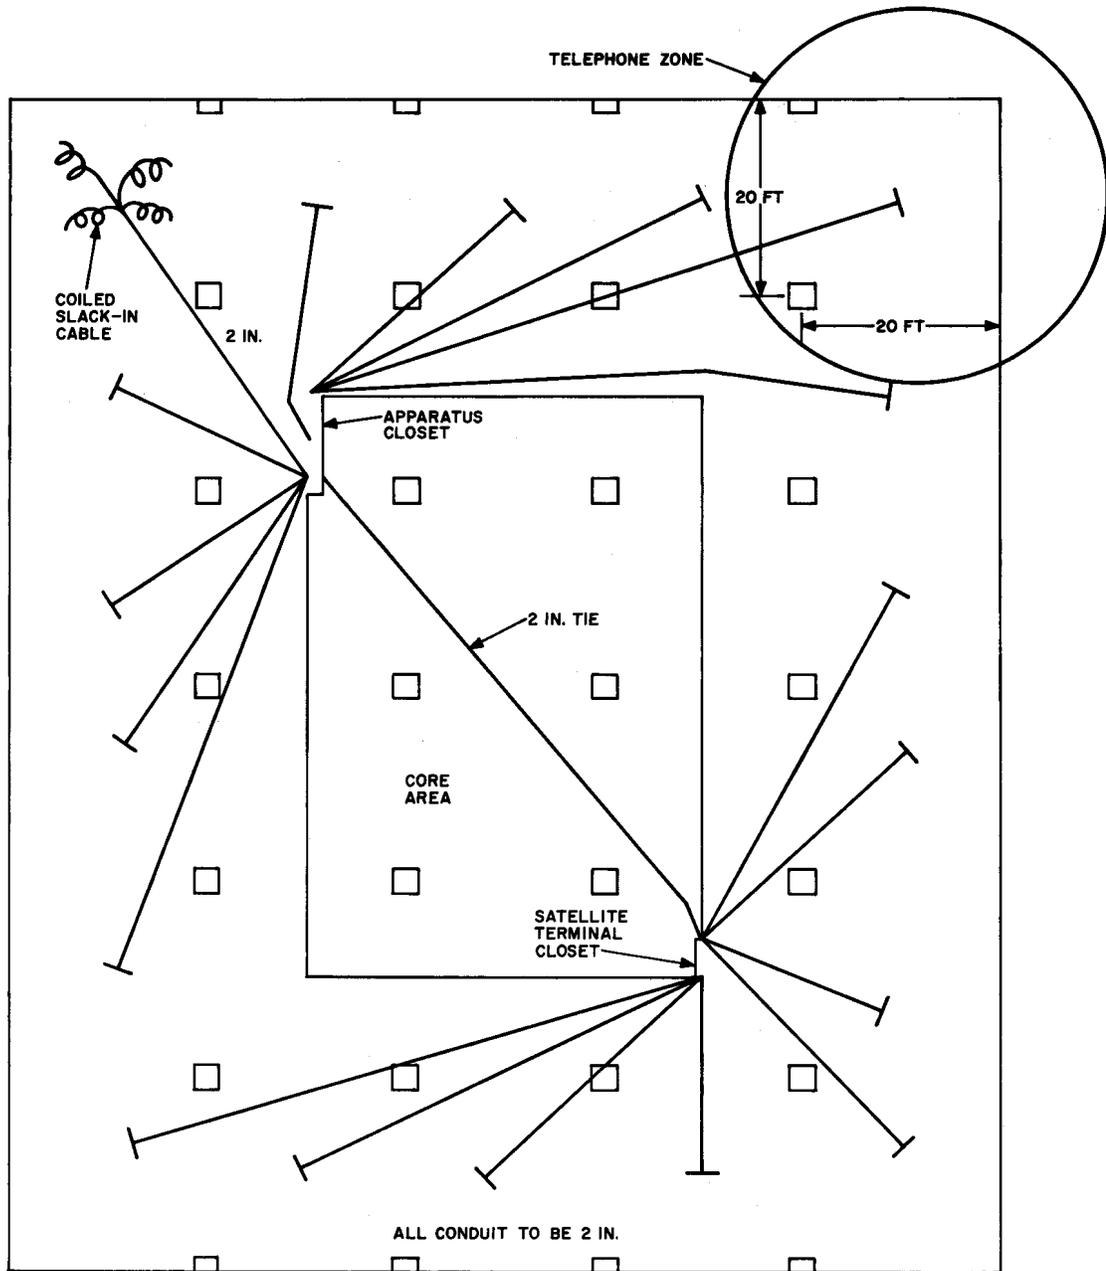

Fig. 8—Typical Ceiling Distribution System Using Conduit to Telephone Zones
10.02 To feed the telephone zone, the building will usually have a continuous length of 2-inch conduit in the ceiling space, properly supported to permit the pulling-in of cables. This conduit should extend from the nearest telephone terminal or apparatus closet and left open-ended at the midpoint of each telephone zone as illustrated in Fig. 8.